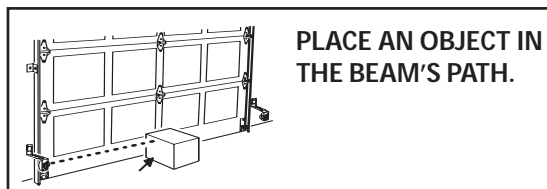

Figure 7 Block the beam
- C** Check the forced closure feature (Figure 7).
- Press the wall button and verify that the bullet moves in the close direction as long as you hold the button but reverses whenever you let go of the button (Figure 7).